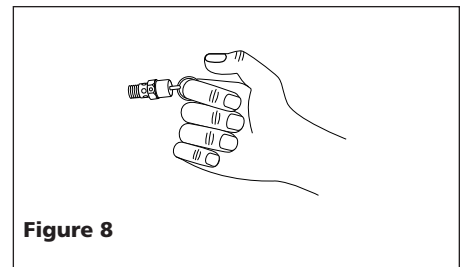

Figure 8
1. Pull ring on safety valve and allow the ring to snap back to normal position (See Figure 8). This valve automatically releases air if the tank pressure exceeds the preset maximum.